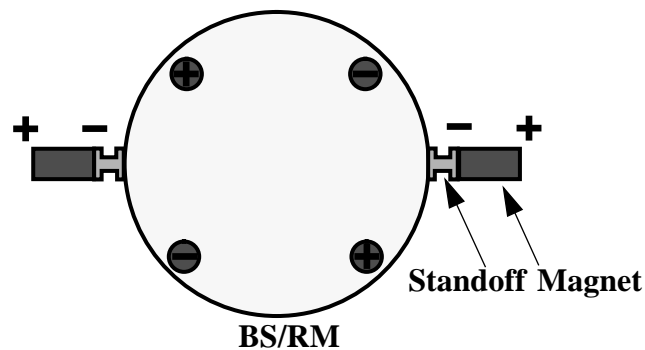

Fig. 1. Configuration of the magnet/standoff Assembly.
the wire to the end of a standoff. Optimum adhesive thickness is .003" [.08mm] or a volume of  $3.9 \times 10^{-6} \text{ in}^3$  [.06mm3]. Epoxy should only cover a diameter of about .02" [.5mm] with a height of .01" [.3mm]. Insert standoff carefully into fixture, making sure not to get adhesive on fixture. Repeat this for three more magnet/standoff assemblies. Make sure that the magnet's poles are in opposite configuration to the magnet next to it in the circle. For example, see Figure 1 below. Lightly tap the top of the magnets. The magnets are placed so that polarities of the magnets alternate; this is to prevent the mass from being shaken in position and orientation, by time-varying ambient magnetic fields.
4. Check that the magnet/standoff assemblies that will be used with this fixture are of the same pole configuration (i.e. the positive pole is glued to the standoff) as shown in Figure 1.